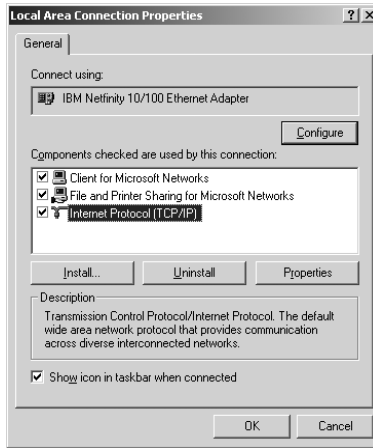

Figure 8: Local Area Connection Properties Window
4. Select **Internet Protocol (TCP/IP)** and click the Properties Button (see Figure 8).